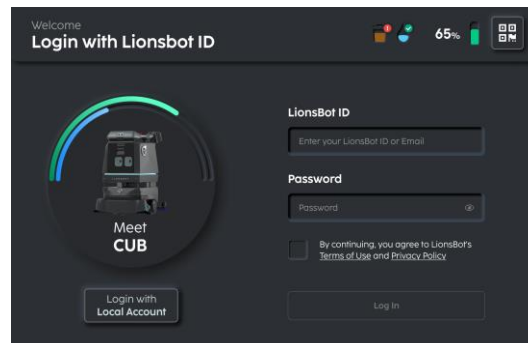

FIGURE 3-18
1. Tap on the 'LOGIN WITH LIONSBOT ID' button at the bottom of the screen (Fig. 3-18).